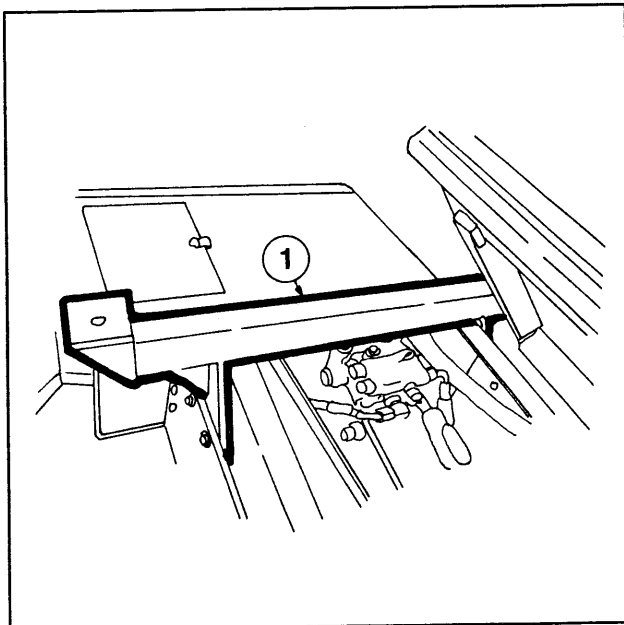

Figure 1
2. Take the rear bracket (1) and position it against the two rear holes of the three-bolt pattern, where the factory ROPS was bolted. REMEMBER to keep the ROPS mounting plates toward the front. Loosely bolt the bracket to the unit's chassis using the 5/8"x3 1/2" hex bolts, hex nuts, and lockwashers supplied. (see figure 1)